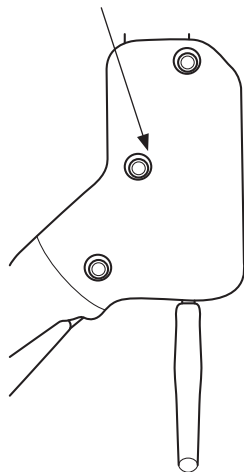

FIGURE 1
2. Remove the housing cover from the light with a 5/32 in. hex key to access the wiring. **Figure 1.**